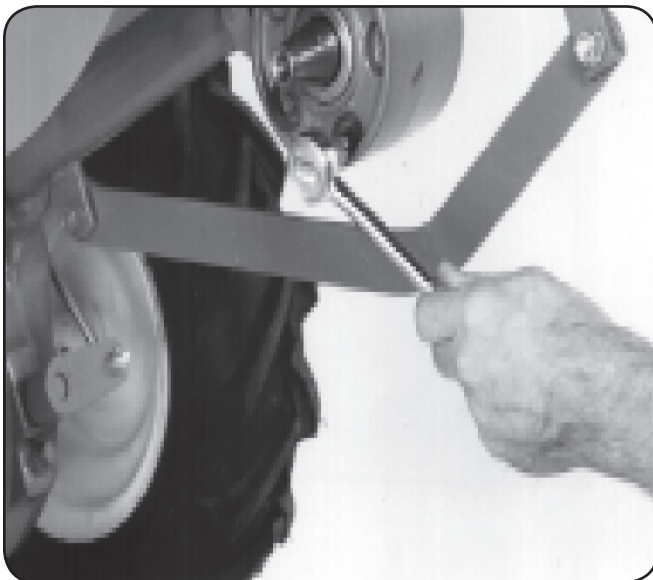

Figure 6-9
2. For complete drainage, remove the left-side tine assembly (See Tine Replacement in the Service section.), then remove just one of the lower screws from the tiller housing cover. See Figure 6-9. To speed drainage, remove the tine attachment dipstick to vent transmission.